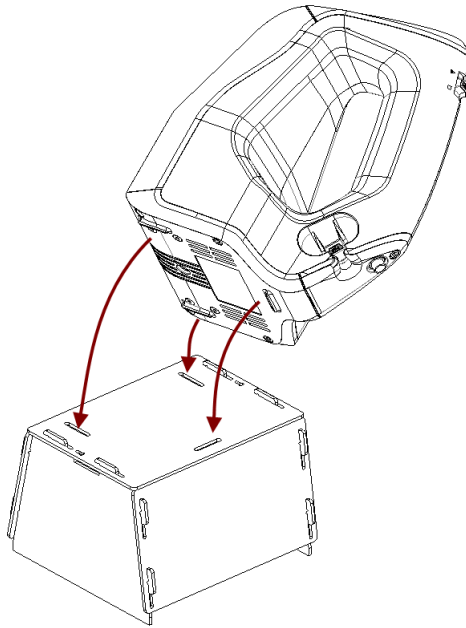

Figure 135: Placing Artec Spider on the stand
3. Place the scanner on the scanner stand, making sure that you insert the three scanner stems in the three slots of the stand cover (see Figure 135).